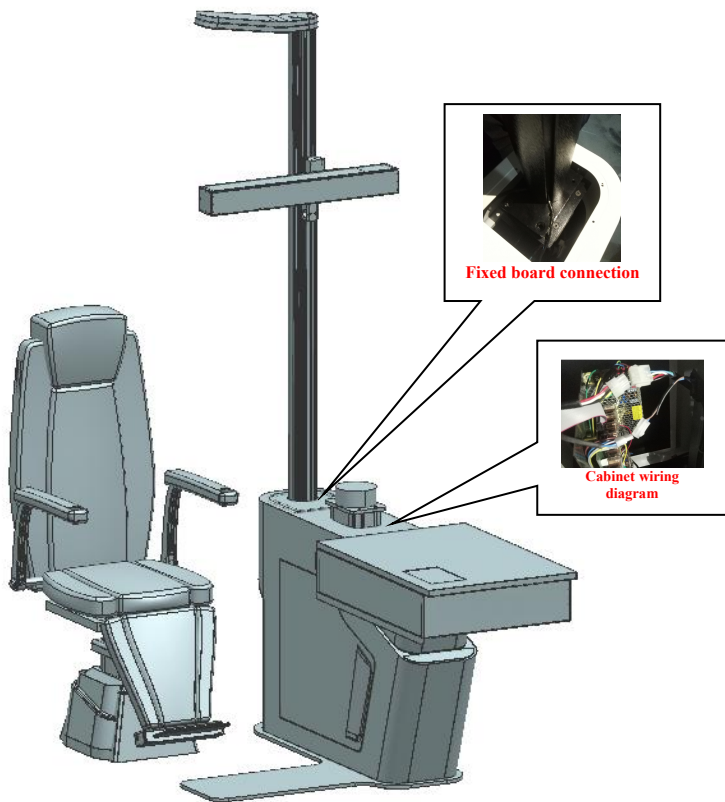

Figure 3
⑥The motor push rod and the back support rod of the chair are firmly connected by an 8mm pin, and the two core aviation plugs are firmly connected at both ends (the chair is at one end and the cabinet is at one end) (such as a physical map);
⑦Swing arm support rod installation: first install the post fixing plate on the square inner profile bracket (note the direction) with 4 screws, then connect the wire connector correctly (like the physical map), and organize the connection line OK, finally restore the cabinet cover; (see Figure 3)